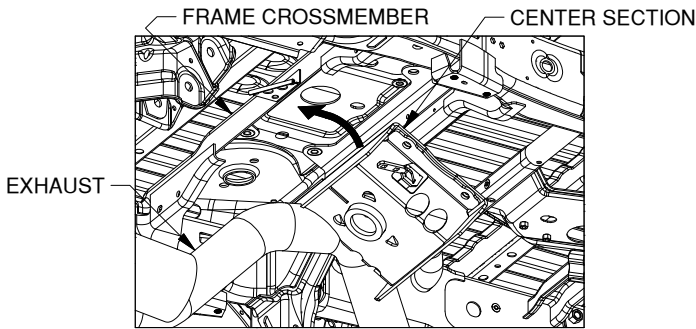

Figure B5: Looking up at the bed from foward of driver side tire.
- 3. Install the center section.** With the latch pin mechanism on the drivers side, raise the center section into place as shown, see Figure B5. In order to clear structures under the truck bed, the center will have to be lifted into place on an angle over the exhaust, then positioned directly under the frame cross member so that the raised portion of the center can be pushed straight up through the hole in the frame cross member, and through the hole in the plastic spacer block. Having assistance in the bed to guide the top of the center section is recommended. Line the 4 holes in the center section up with the frame holes and the holes in the fastener handles. Thread a 5/8" flange head bolt into each hole.